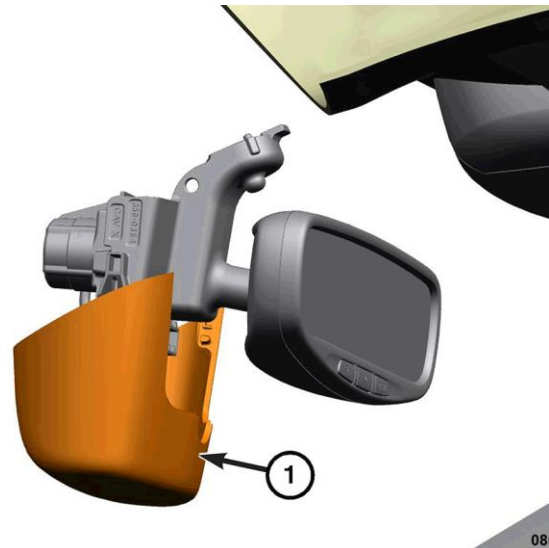

Figure 29 – Lower Mirror Trim
58. Using trim stick separate the sides of the lower trim cover and gently pull down and remove the lower mirror trim (1) (Figure 29).
78. Align the sides of the lower trim cover and gently push up and install the lower mirror trim (1) (Figure 29).